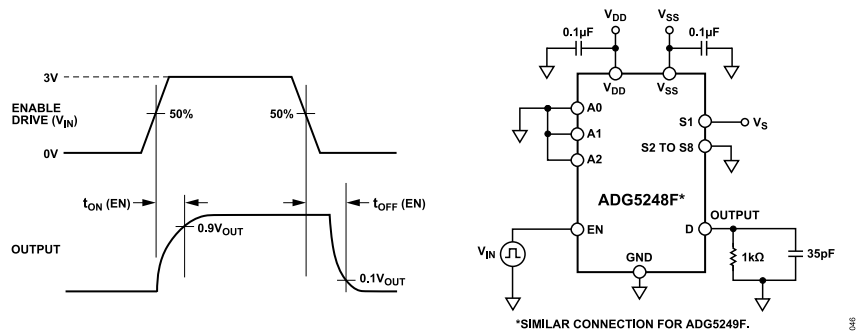

Figure 49. Enable Delay,  $t_{ON} (EN)$ ,  $t_{OFF} (EN)$
**tON (EN)**
tON (EN) represents the delay between applying the digital control input and the output switching on (see Figure 49).
**tOFF (EN)**
tOFF (EN) represents the delay between applying the digital control input and the output switching off (see Figure 49).